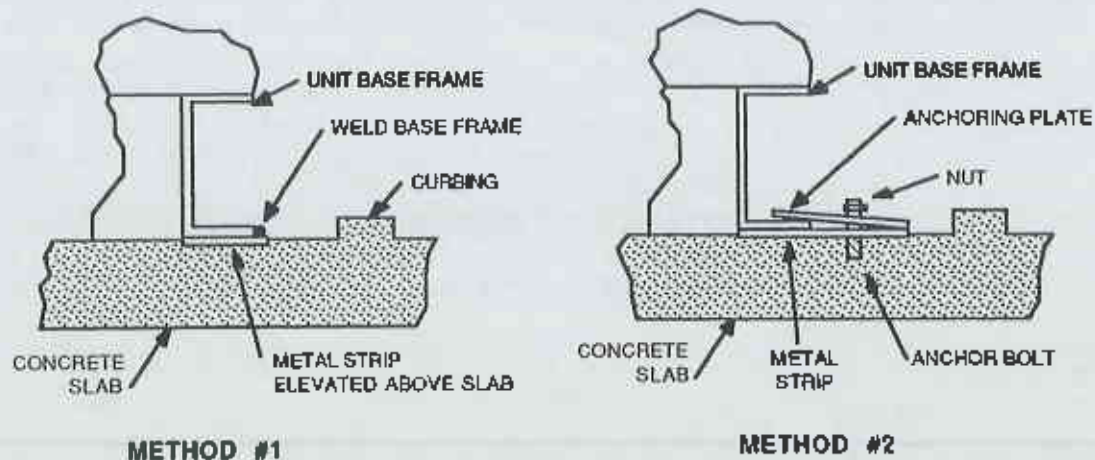

Figure 3-8 Typical Concrete Slab Detail
When preparing the slab, it may be desirable to embed steel plates or anchors in the concrete to secure the unit in place after it is set. Refer to Figure 3-8.
ing fluid from the unit. To determine maximum curbing height, check the clearance between the bottom of the unit doors and the bottom of the structural base frame. A curbing height of two (2) to three (3) inches is all that would be needed. This height would clear the doors on all standard units. Refer to Figure 3-8.